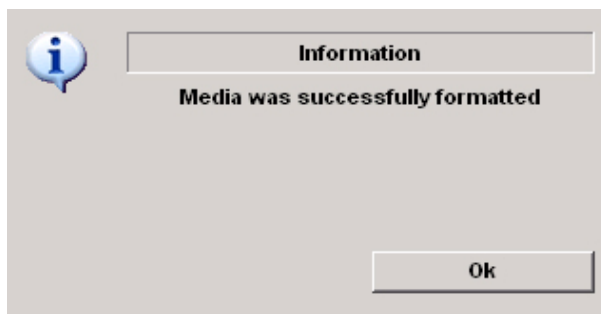

Figure 4-18 Format Successful Pop-up Menu
- 5.) The Ultrasound system displays a pop-up menu, as shown in Figure 4-18 on page 4-25 . When the formatting has been completed, press OK to continue.